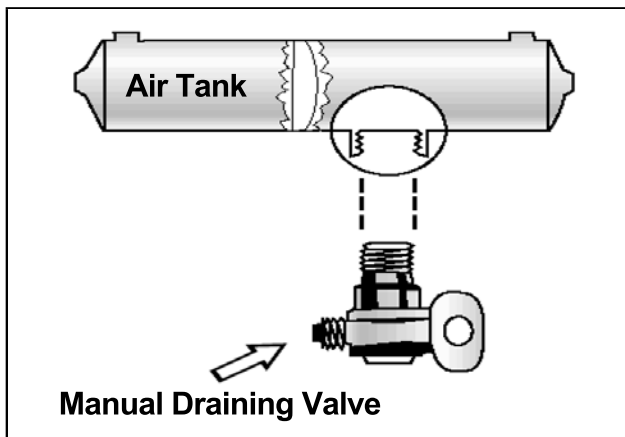

Figure 5.1
- **Manually**— operated by turning a quarter turn or pulling a cable. You must drain the tanks yourself at the end of each day of driving. See Figure 5.1.